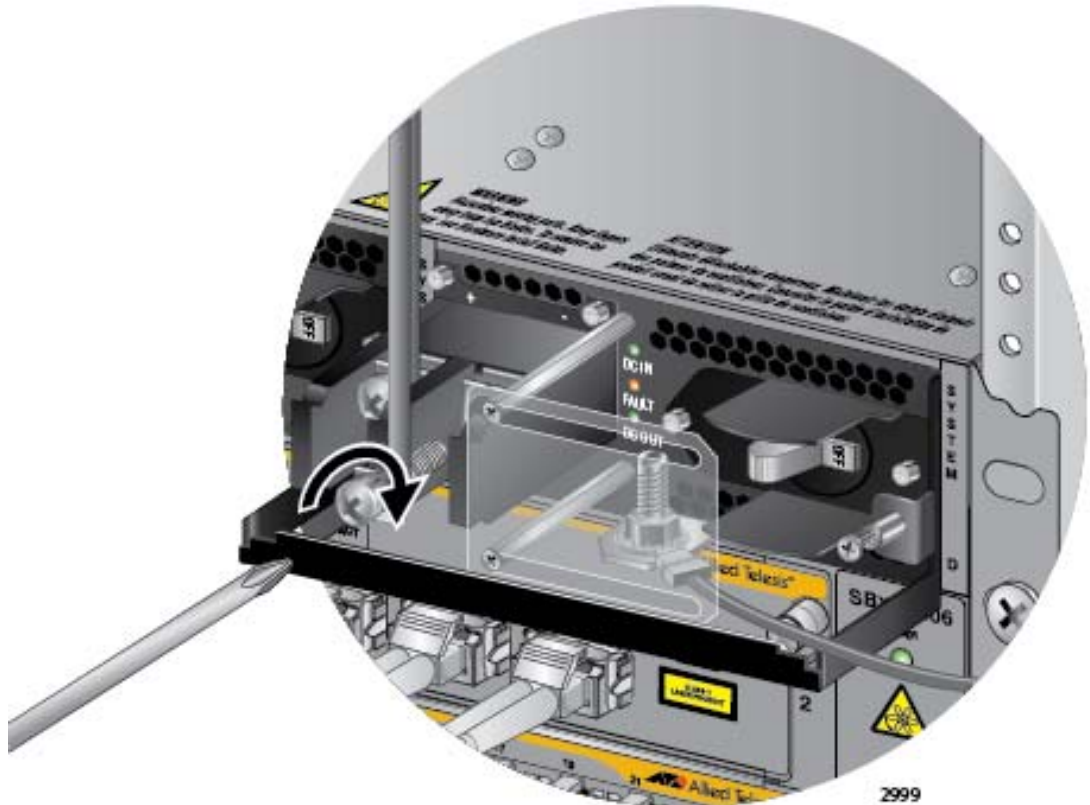

Figure 159. Connecting the Negative Lead Wire
5. Wrap the negative lead wire clockwise around the remaining terminal screw and secure the screw and wire to the negative terminal connection on the terminal block with a #3 Phillips-head screwdriver, as shown in Figure 159 on page 235. The negative terminal is on the right.